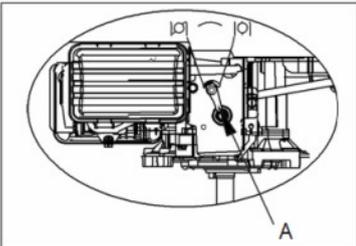

Fig 2B A. Gashendel
b) Zet de gashendel in de chokestand . (Fig 2B )